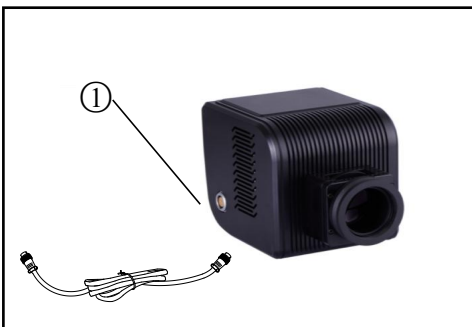

Figure 1
2.1. Connect the transmission cord(Figure 1)